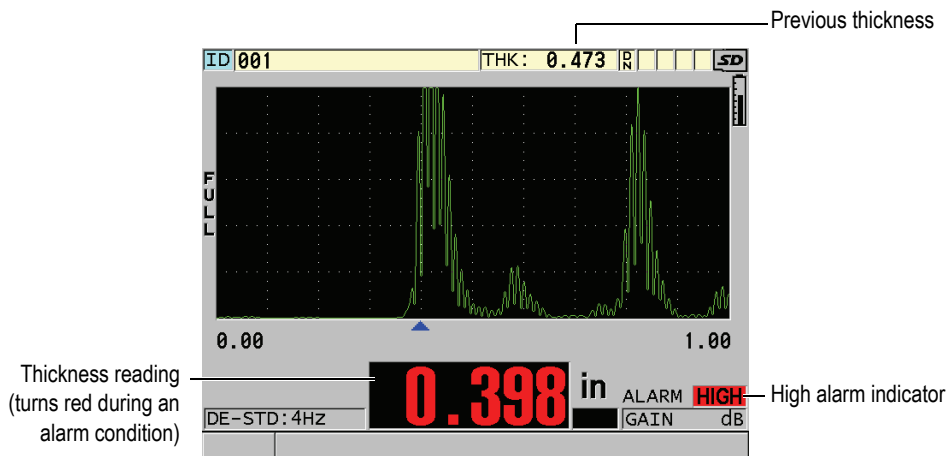

Figure 8-4 Example of a HIGH alarm indicator
- The **HIGH** or **LOW** alarm indicator flashes with a red background at the bottom right corner of the measurement screen (see Figure 8-4 on page 108).